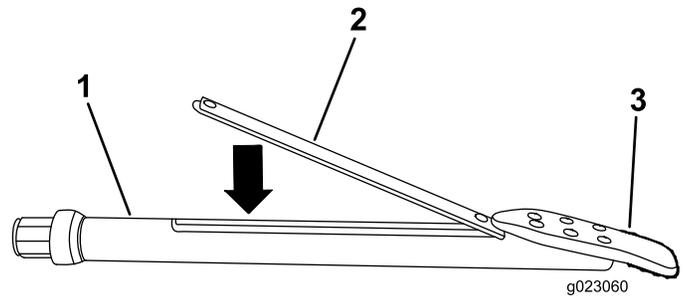

Figure 51
3. Insert the sonde beacon with the forward end toward the drill bit into the sonde housing (Figure 51).